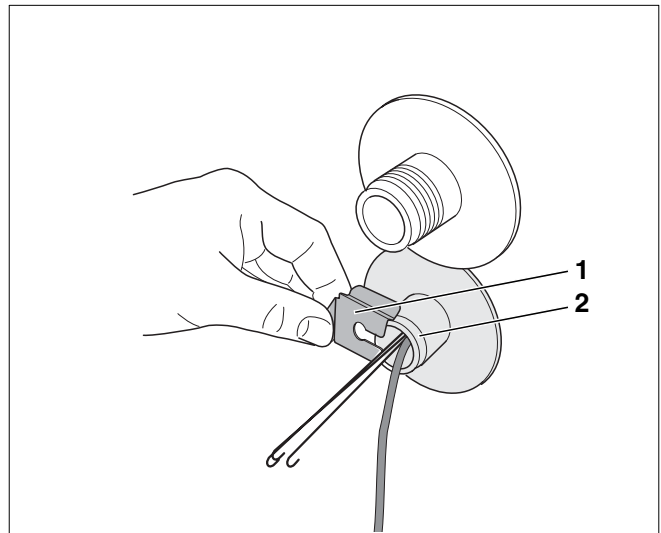

Fig. 8 Installing the sensor holder clip
- Push the sensor holder clip (Fig. 8, **Item 1**) from the side over the sensor well (Fig. 8, **Item 2**).